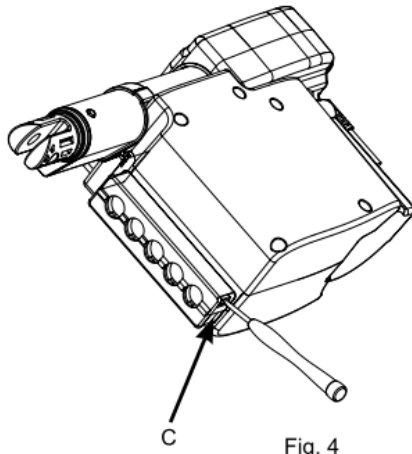
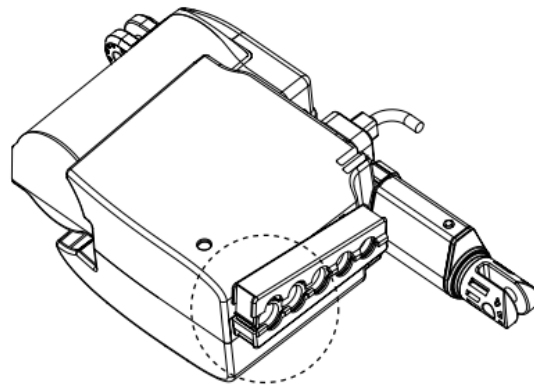

Fig. 4
Fig. 5
- 4.3.1 One side of the fixer can be released (Fig. 5) by strongly pressing both sides of the fixer on LAK4D controller (Fig. 4).